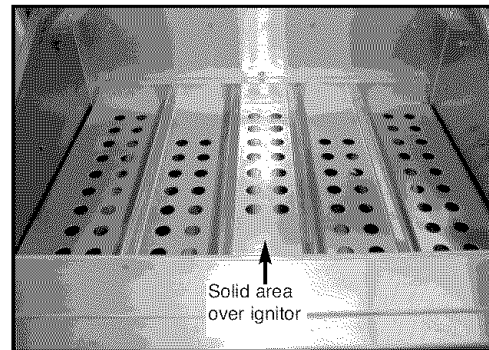

Fig. 12
1. Insert the Flavor Grid into the bottom of the grill with the ridges facing up by angling it down and in. Be sure the middle sections solid area is covering the front ignitor. (See Fig. 12)